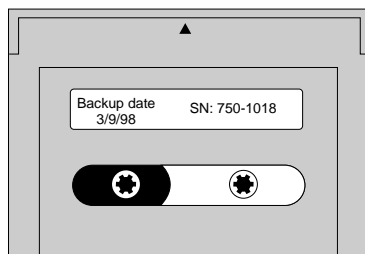

Figure 9.7: Backup Streamer Tape with Label
8. Label the tape as shown in Figure 9.7.